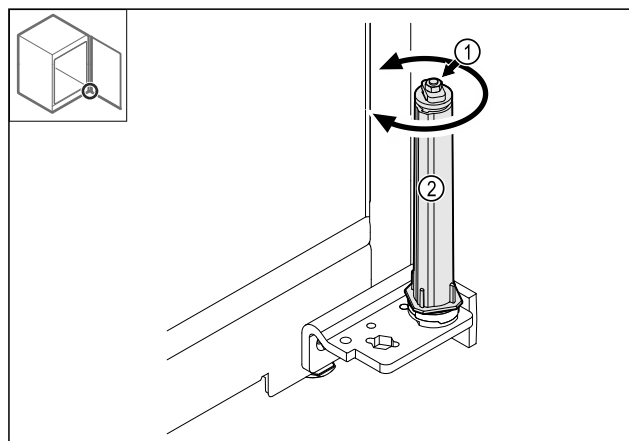

Fig. 43
- Do not dismantle the screw connection Fig. 43 (1) on the locking system.
- Turn the locking system Fig. 43 (2) until it clicks.